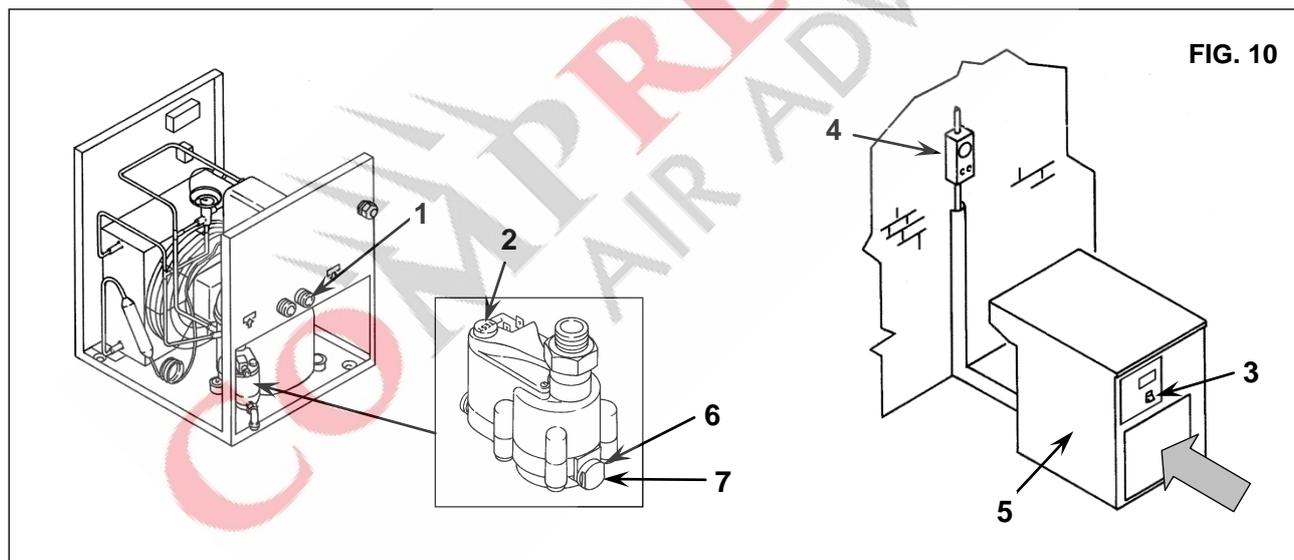

FIG. 10
### 15.2 CLEANING OF THE AUTOMATIC CONDENSATE DISCHARGER FILTER (Fig. 10)
- Close the cock Ref. 1 Fig. 10
- Release the pressure in the dryer by pressing the condensate drain "TEST" pushbutton located on the steam trap Ref. 2 Fig. 10.
- Switch off the machine by pressing the STOP button Ref. 3 Fig. 10
- Turn on the supply automatic differential switch Ref. 4 Fig. 10
### 15.3 CLEANING THE CONDENSER (Fig. 10)
- Remove the panels Ref. 5 Fig. 10
- Clean the condenser fins Ref. 1 with compressed air (Fig. 10) **DO NOT USE WATER OR SOLVENTS**
- Close the panels Ref. 5 Fig. 10
#### PRESSURE DISCHARGE PROCEDURE (Fig. 10)
- Close the taps Ref. 1 Fig. 10
- Release the pressure in the dryer by pressing the condensate drain "TEST" pushbutton locate on the steam trap Ref. 1 Fig. 10